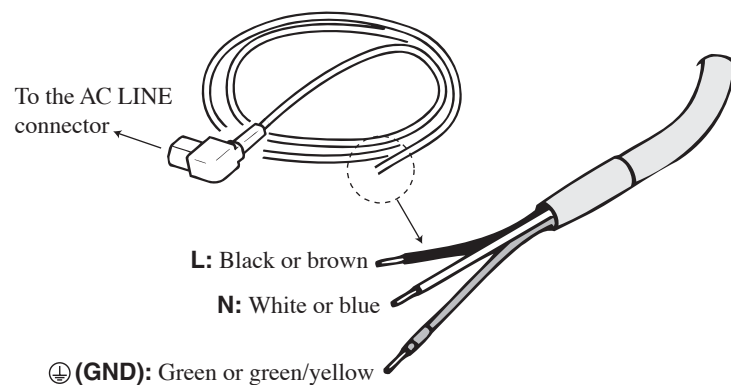

Fig. 1-2 Power cord of the PFX2331
3. Prepare the terminals at the AC power supply end of the power cord as shown in Fig. 1-2.